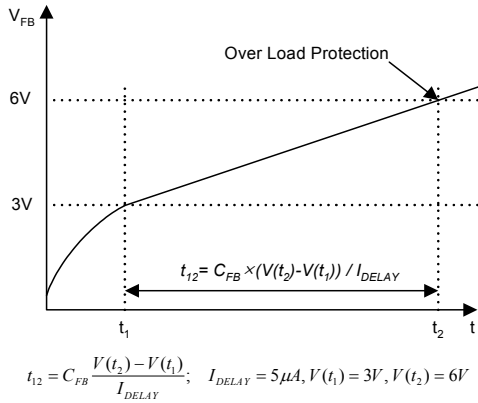

Figure 6. Over Load Protection (OLP)
4.1 Over Load Protection (OLP) : Overload is defined as the load current exceeding a pre-set level due to an unexpected event. In this situation, the protection circuit should be activated in order to protect the SMPS. However, even when the SMPS is operating normally, the over load protection (OLP) circuit can be activated during the load transition. In order to avoid this undesired operation, the OLP circuit is designed to be activated after a specified time to determine whether it is a transient situation or an overload situation. In conjunction with the Ipk current limit pin (if used) the current mode feedback path would limit the current in the Sense FET when the maximum PWM duty cycle is attained. If the output consumes more than this maximum power, the output voltage (V_o) decreases below its rating voltage. This reduces the current through the opto-coupler LED, which also reduces the opto-coupler transistor current, thus increasing the feedback voltage (V_{FB}). If V_{FB} exceeds 3V, the feedback input diode is blocked and the 5uA current source (DELAY) starts to charge Cfb slowly up to Vcc. In this condition, V_{FB} increases until it reaches 6V, when the switching operation is terminated as shown in Figure 6. The shutdown delay time is the time required to charge Cfb from 3V to 6V with 5uA current source.